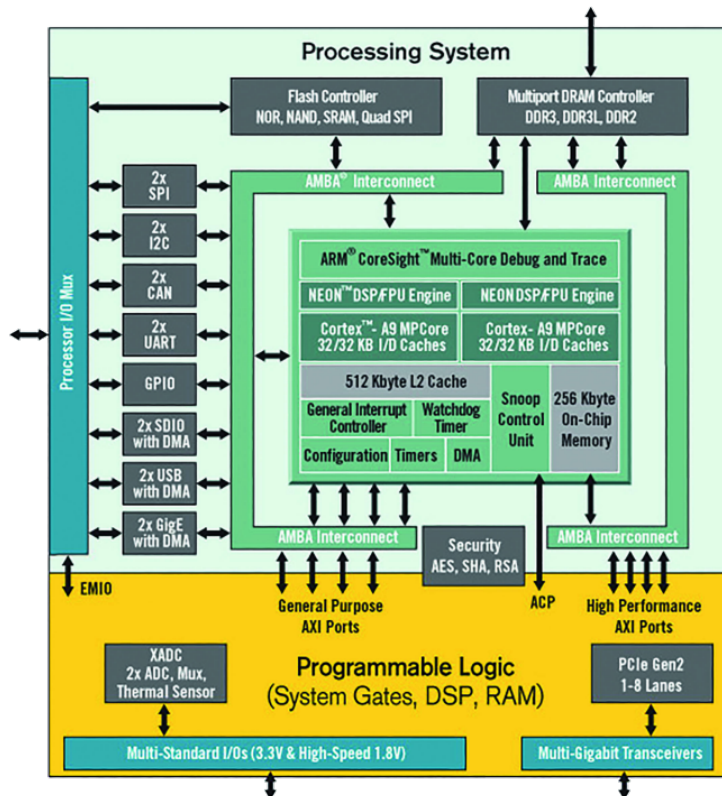

Figure 10: Architecture of the Zynq-7000 ARM/FPGA PSoC
Moreover, the architecture of the Zynq-7000 PSoC is shown in Figure 10. As can be seen, the architecture can be split into two main parts: (i) the Processing System (PS) containing a *dual-core ARM Cortex™ A9 CPU* and (ii) the Programmable Logic (PL) that will *host your developed IPBs*. In this lab, we will concentrate on the PL part of the Zynq-7000 PSoC. In the next lab, you will learn Transaction-Level Modeling (TLM) that can be used to model the PS of the chip and, finally, in the last lab we will integrate both parts to obtain a virtual prototype of the Zybo board.